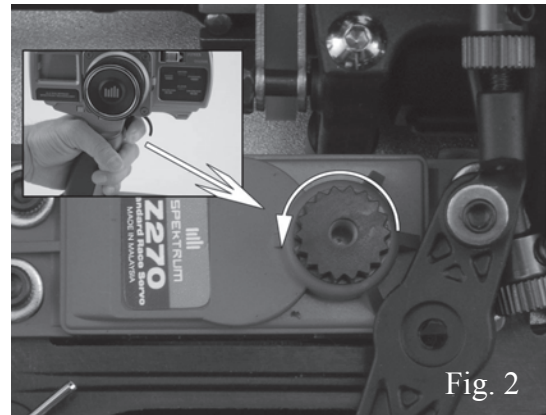

Fig. 2
2. With the servos, receiver, switch and charged receiver battery installed and connected, turn on the radio tray. When throttle is applied, ensure the servo is rotating in the proper direction. (Fig.2)